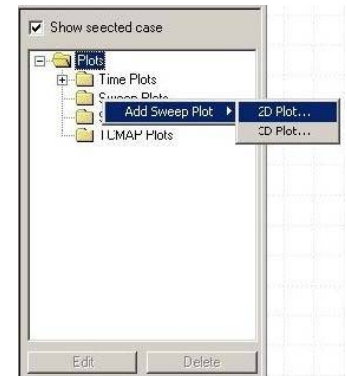
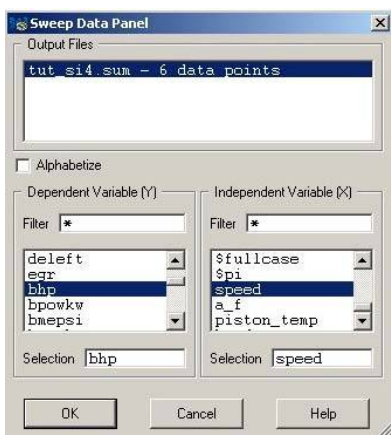

Figure 3: Creating a New Sweep Plot
Figure 4: Sweep Data Panel
To create a sweep plot, **right-click** on the **Sweep Plots** folder in the Plots Frame and select the **Add Sweep Plot -> 2D Plot...** menu items (see **Figure 3**). This will create a new Sweep Plot named Sweep Plot #1 by default. The plot is empty, with no data displayed. To add data, select the **Add pull-down menu** and then select the **Data...** menu item to open the Sweep Data Panel. This contains a list of all of the keywords in the .sum file that correspond with a cycle-averaged numeric value. The list defining sum file keywords and their associated units is available in the REFERENCE LIBRARY, under the Tables section. Select bhp for the Dependant Variable (Y) and select speed for the Independent Variable (X). The Sweep Data Panel should appear as in **Figure 4** when completed. Click the **OK** button to apply.